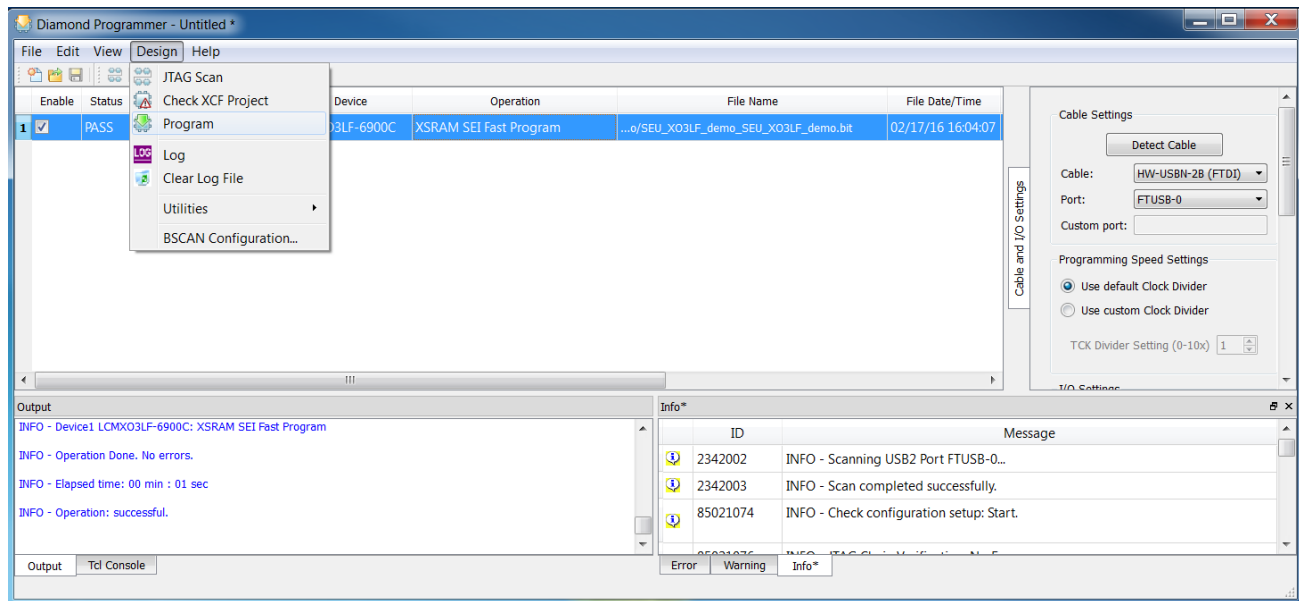

Figure 8.14. Program Option
1. On the menu bar, click **Design** and on the dropdown menu click **Program** to configure the FPGA with the original bitstream as shown in Figure 8.14.